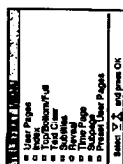

Fig. 40
- 1 Press **[MENU]**. The menu will be superimposed on the teletext display. (See Fig. 40.)